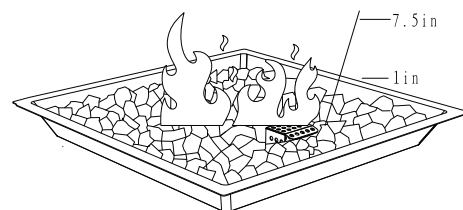

Figure 3
7. Adjust the flame to the desired height with the gas control knob. Visually check the burner flames as picture below (Figure 3).